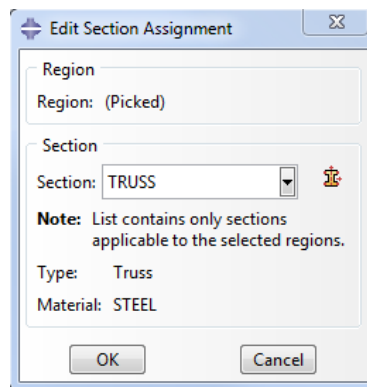

Figure 10. Edit Section Assignment Dialog Box (TRUSS)
- The **Edit Section Assignment** dialog box will appear (Figure 10). Because only one section has been created, the dropdown menu defaults to the **TRUSS** section. If multiple sections had been created, the dropdown menu could be used to assign different sections to different parts of the geometry.